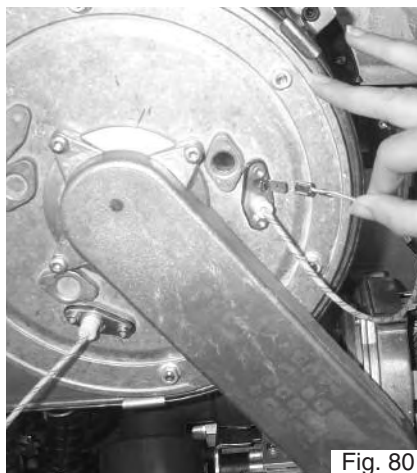

Fig. 80
2. Disconnect the earth cable from the ignition electrode. (Fig. 80);